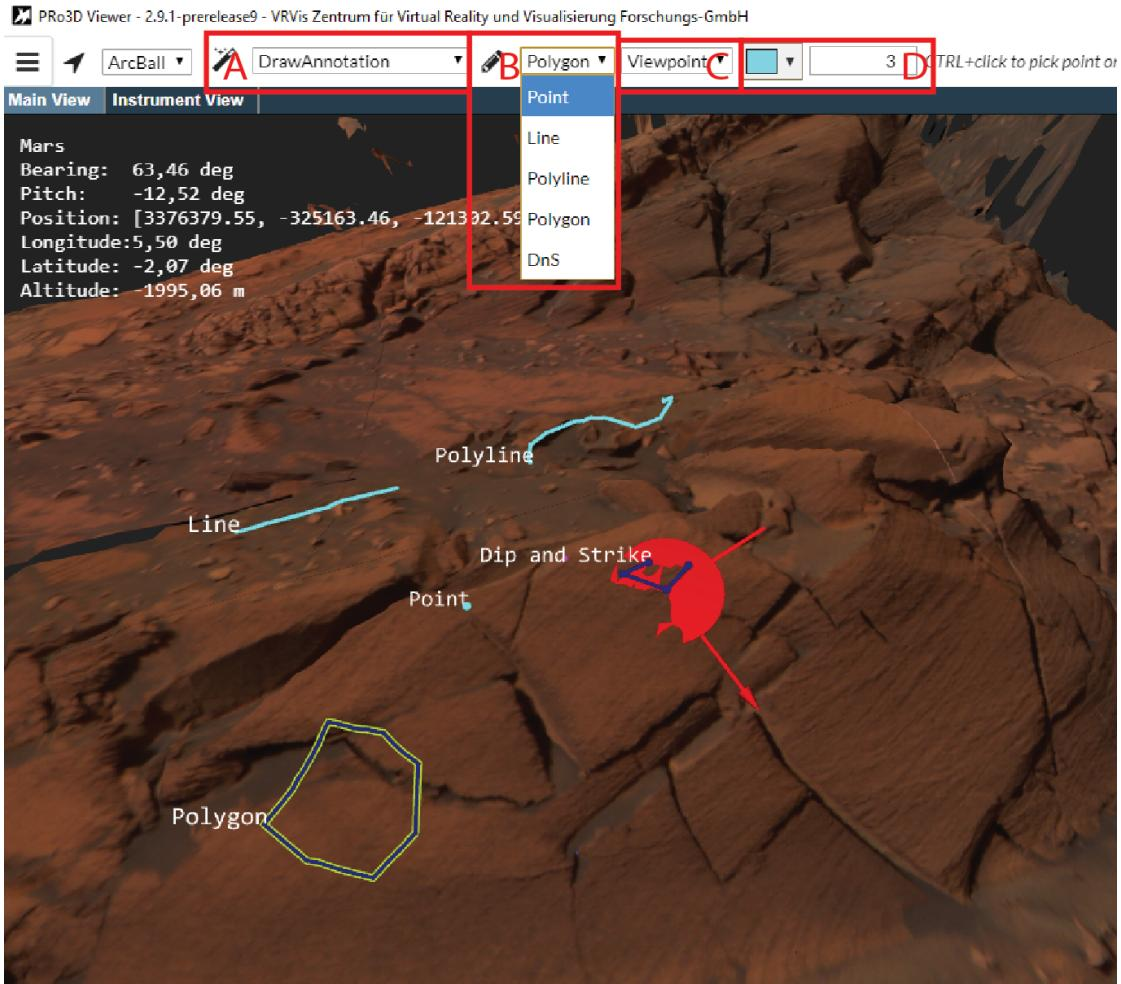

Figure 9: Annotation settings: **A**: set viewer action to “DrawAnnotation”. **B**: select annotation mode. **C**: select projection. **D**: choose color and thickness.
Figure 9 shows the settings for drawing annotations. First set “DrawAnnotation” in the actions menu (A in Figure 9). Then you can choose one of the following annotation modes (B in Figure 9):
- **DnS**: (= Dip and Strike) A polyline onto a surface, e.g. alongside a rock layer can be picked. After clicking Enter, a plane is fitted (least squares) to this polyline (blue), which is then intersected with a horizontal plane, which gives us the so-called strike vector (red). This vector represents the direction within the plane with the least inclination and orthogonal to it is the dip vector (green) which shows the direction of highest inclination as shown in Figure 9.
For all annotations (except Point) you can choose between “Linear”, “ViewPoint” and “Sky” projection which determines the direction of the picking ray (C in Figure 9):
Finally you can set the color and thickness of the annotation (D in Figure 9). Section 4.2 shows how to maintain, group and edit existing annotations.
Then the annotation turns its color to green in the listing and gets a green border in the main view as shown in Figure 9, where the Polygon is selected. Once selected, you can explore and adjust the annotation's properties (see Section 4.2).